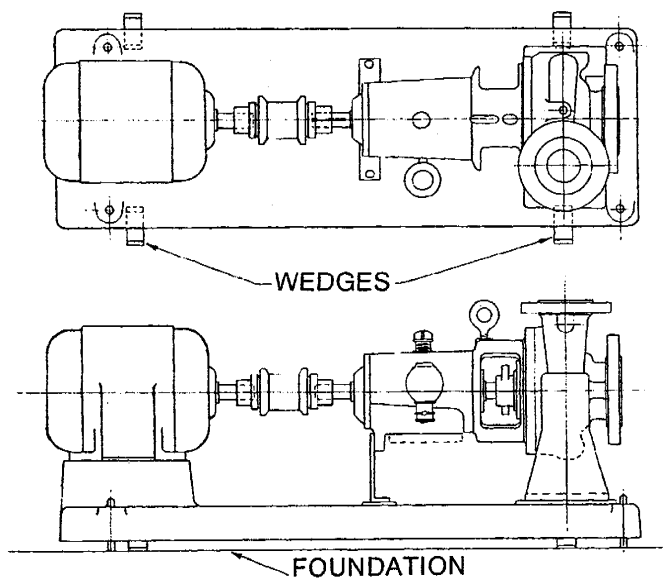

Figure 2
3. Put the unit in place on wedges. THE WEDGES SHOULD BE PLACED AT FOUR POINTS AS SHOWN IN FIG. 2. Some long installations may require additional wedges near the middle of the bedplate.